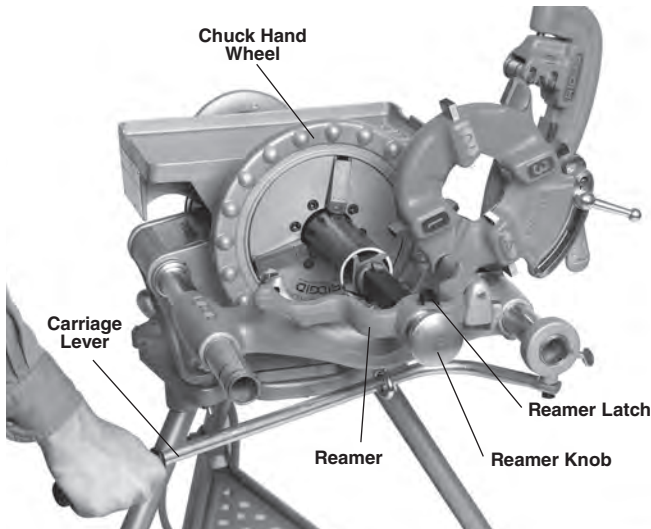

Figure 22 – Reaming with No. 341 Reamer
2. Extend reamer by pressing latch and sliding knob toward pipe until latch engages end of bar (Figure 22).